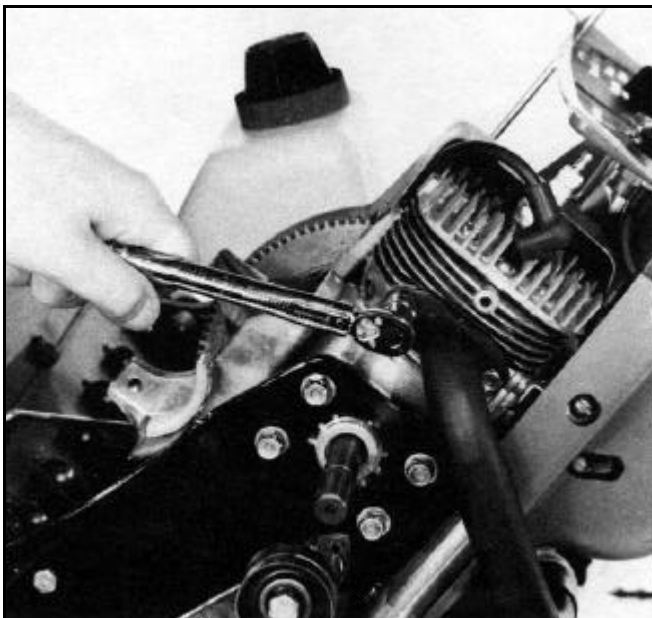

Figure 43 0217-026
9. On 20" models, slide the muffler into place on the engine. Torque the muffler nuts to 90 - 120 in-lbs. (Figure 43).